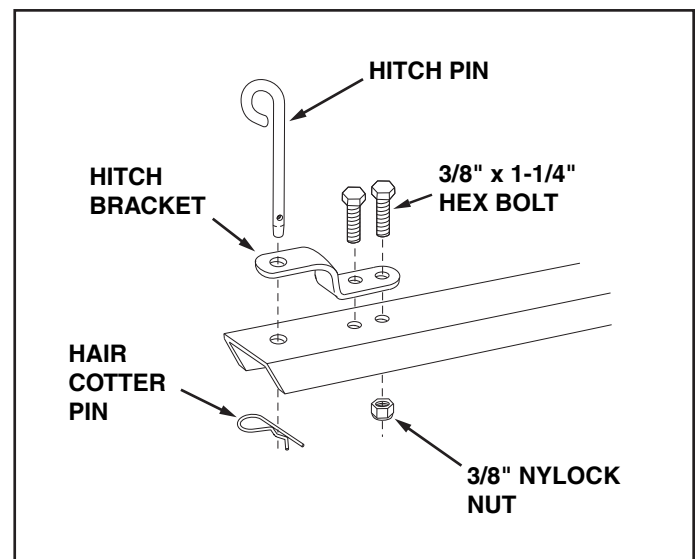

FIGURE 3
5. Assemble the end of the hitch bracket to the front of the drawbar tongue using two 3/8" x 1-1/4" hex bolt and 3/8" nylock nut. **Tighten**. See figure 3.
6. Assemble the hitch pin to the tongue and hitch bracket and secure it with the hair cotter pin. See figure 3.